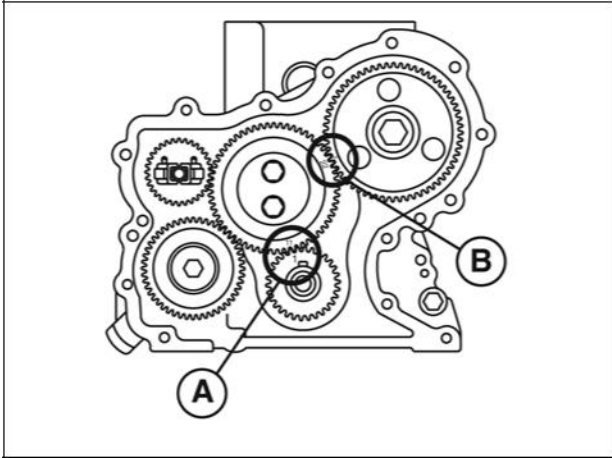

Figure 15
10. With the crankshaft key at the 12 o'clock position, assemble idler gear so that timing mark 11 (AA) is aligned with timing mark 1 (A) in crankshaft gear, timing mark 22 (BB) is aligned with timing mark 2 (B) on camshaft gear (Figure 15).